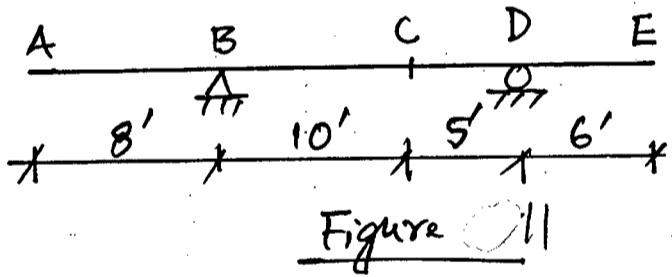

Figure 11
10. (a) Draw influence line diagram for (a) Reaction at B (b) shear just left of D and (c) Moment at C of the beam shown in Figure 11. **(18)**